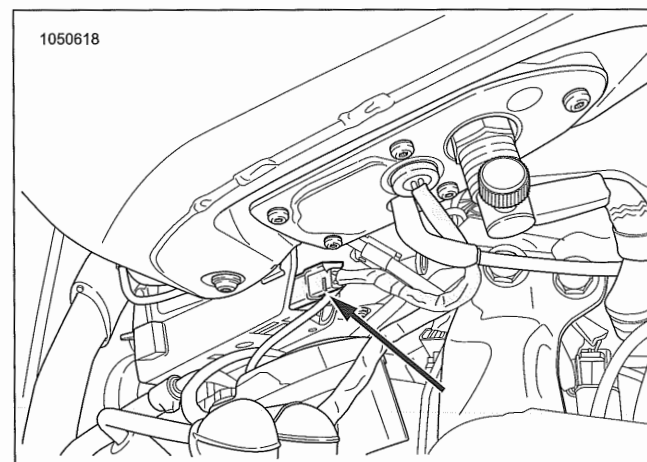

Figure 6-13. Fuel Pump Connector
1. See Figure 6-13. Disconnect fuel pump connector.
1. See Figure 6-13. Connect fuel pump connector.